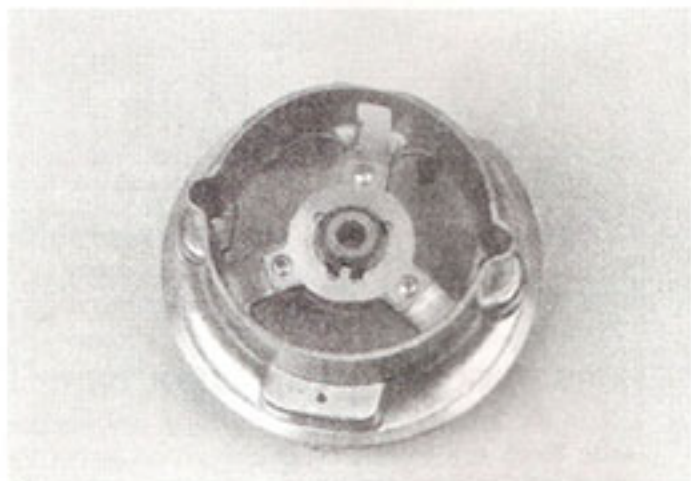

Fig. 41
- H. Check the bearing in the bearing bracket (Fig. 41). To replace the bearing, remove the three #4-40 x 1/2" pan head screws and lift off the bearing retainer. Take out the old bearing. Place new bearing in cavity with square notch toward the top of the bracket. Soak the felt washer in bearing cap with oil. Place the retainer on the bearing so that the tongue fits into the square notch, then screw in the three screws.